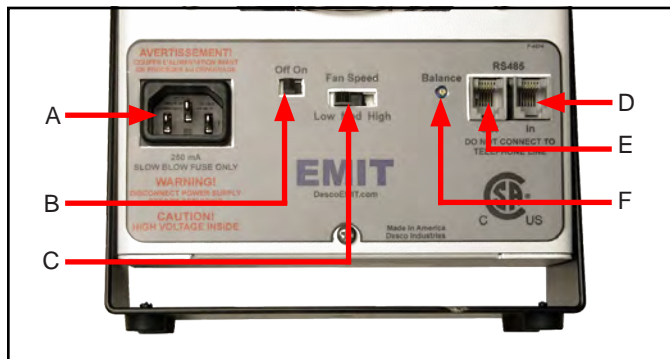

Figure 3. Bench Top Zero Volt Ionizers features and components
1. Set the fan speed switch on the rear of the unit to the LOW, MED, or HI position (see Figure 3). Higher airflow will result in faster neutralization rates.
The Bench Top Zero Volt Ionizer is an auto-balancing unit. However, tuning or manual adjustment can be accomplished by inserting a small screwdriver or trimmer adjustment tool into the balance adjustment hole located at the rear of the unit (see Figure 3). To increase the output in a positive direction, turn the potentiometer clockwise. To increase the output in a negative direction, turn the potentiometer counter-clockwise.